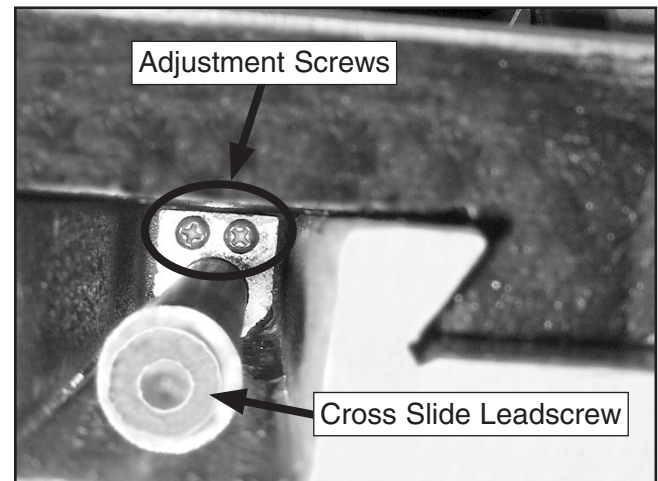

Figure 99. Cross slide backlash adjustment screws (viewed from the rear of the cross slide).
- From the rear of the cross slide, loosen/tighten the two Phillips head screws shown in **Figure 99** until you are satisfied with the amount of backlash.